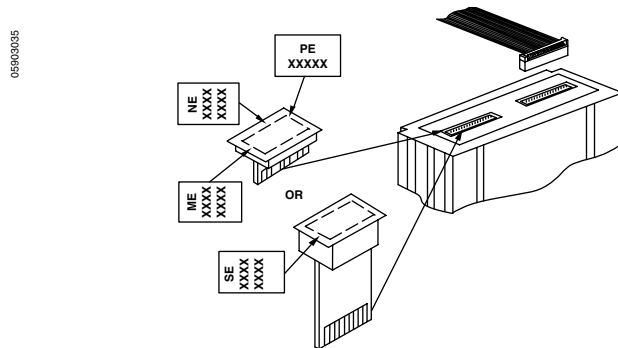

Figure 10: Rating Plug Insertion
*NOTE: The rating plug must be oriented as shown in figure 10 or 11.*